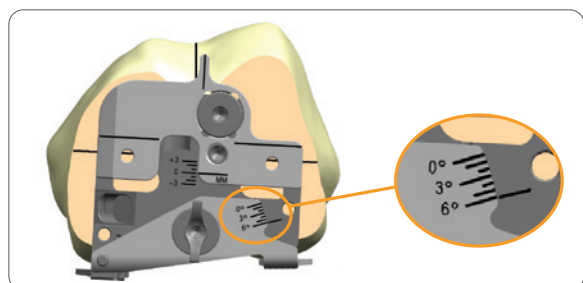

Figure 25
4. Ensure that the lateral paddle contacts the posterior lateral condyle. Begin with the paddle set to 3°. Rotate away from 3° if it is desirable to match the A/P or epicondylar axis or if it is desirable to balance the medial and lateral flexion gaps (**Figure 25**).